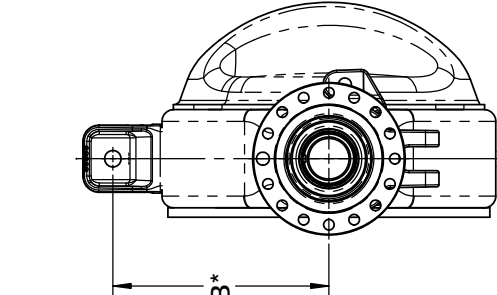

FIGURE 1
- Check 3 passes for welds. Figures 1 and 5
- 1) LOCATE THE AXLE ADAPTERS ON PROPER BEAM CENTERS. SEE BEAM CENTER CHART AND FIGURE 1
- 1) THE AXLE BRACKET SHOULD BE CLAMPED SECURELY IN THE PROPER LOCATION SEE FIGURES 1 AND 2
- 5) APPLY WELDS IN THE SIZES AND SEQUENCE SHOWN IN FIGURES 1 AND 5. BACK STEP START OF WELDS AT LEAST 1/2" TO PREVENT LACK OF FUSION. BACK FILL END OF WELDS AT LEAST 1/2" OR SUFFICIENT AMOUNT TO PREVENT CRATERS BEING FORMED AT END OF WELD. ALLOW WELD SUFFICIENT TIME TO COOL BETWEEN PASSES. WELDS ARE TO BE COMPLETELY CONSUMED BY THE 1ST PASS.